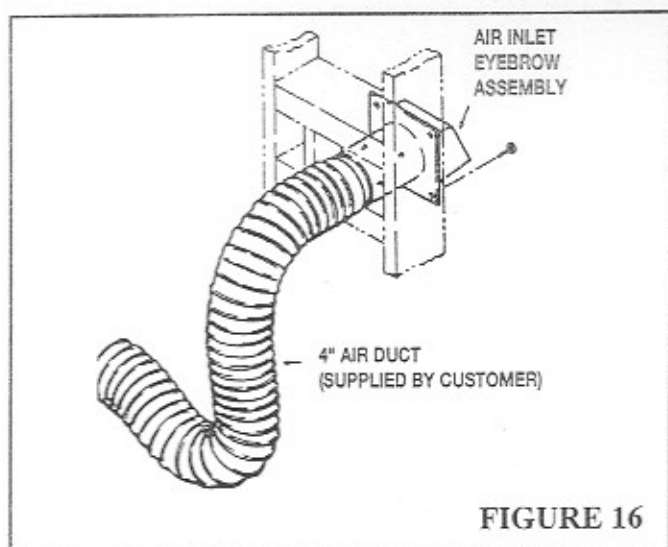

FIGURE 16
**STEP 7:** Install the air inlet eyebrow through the wall opening as shown in Figure 16. Push a 4" diameter NON-COMBUSTIBLE Class 0 or Class 1 flexible duct onto the eyebrow.